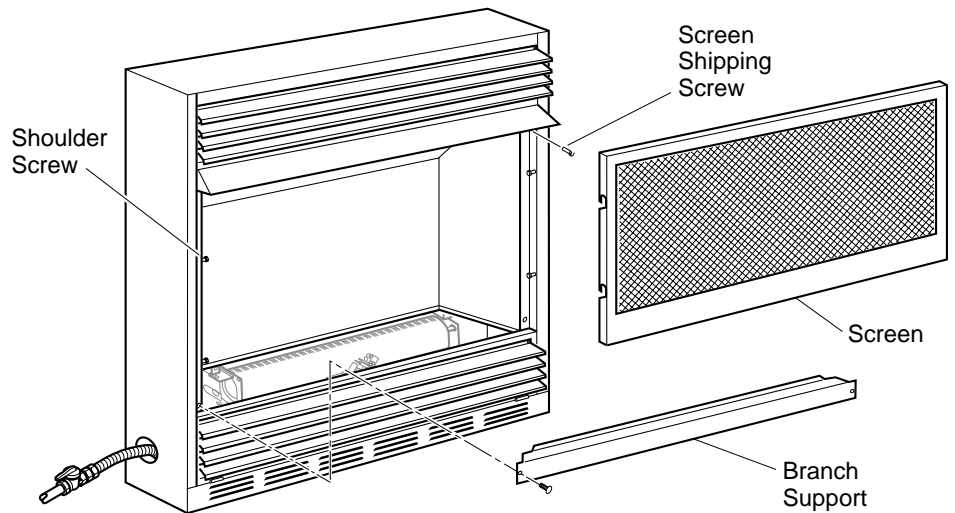

Figure 23 - Removing Branch Support From Fireplace
2. Remove screws that attach branch support to fireplace (see Figure 23). Carefully lift up branch support and remove from fireplace (see Figure 23).